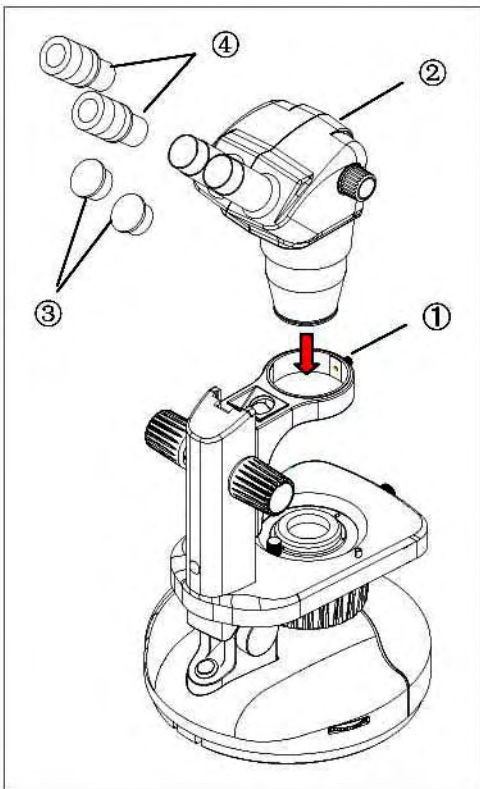

Fig. 1
Mounting the Stereo Head (Fig. 1)
Installing the Eyepieces (Fig. 1)
Remove the eyepiece dust caps ③ and insert the eyepieces ④ until they stop as shown in Fig. 1.